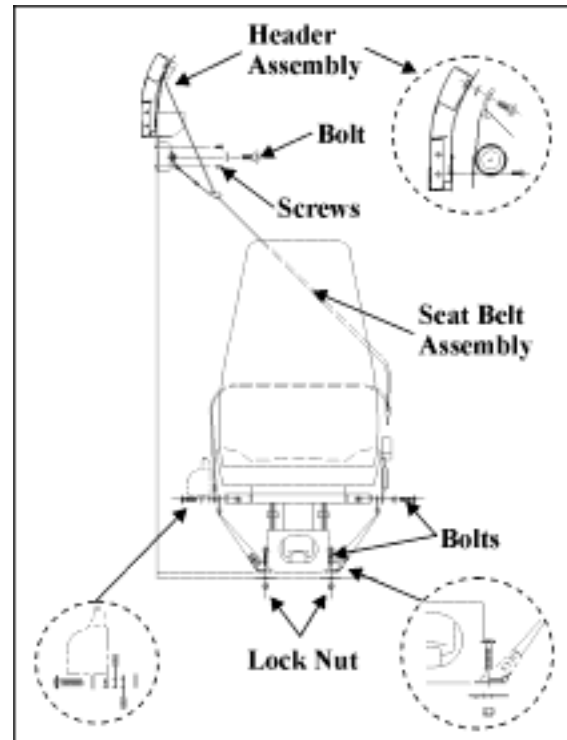

Figure 5—Driver's Seat Belt Attach Points
1. Remove one (1) capscrew and flat washer at seat belt retractor. **Figure 5—Driver's Seat Belt Attach Points.**
2. Remove one (1) shoulder bolt and flat washer at the header assembly.
3. Remove two (2) screws at the header assembly.
4. Remove one (1) bolt from the mounting bracket. **Figure 5—Driver's Seat Belt Attach Points.**
5. Remove two (2) bolts and washers from seat belt tether assembly. **Figure 5—Seat Belt Attach Points.**
6. Remove one (1) lock nut, one (1) reinforcement plate and one (1) bolt from floor.
2. Apply Loctite™ 242 Blue to five (5) or six (6) threads.
3. Install one (1) bolt, one (1) reinforcement plate, lock nut and washer into floor.
5. Install two (2) bolts and washers at the rear of the driver's seat. **Figure 5—Driver's Seat Belt Attach Points.**
6. Install one (1) bolt at the mount bracket. **Figure 5—Driver's Seat Belt Attach Points.**
7. Install one (1) flat washer and one (1) shoulder bolt at the header assembly
8. Install one (1) capscrew and flat washer at seat belt retractor. **Figure 5—Driver's Seat Belt Attach Points.**
9. Install two (2) screws at the header assembly.
1. Remove ten (10) screws from seat belt cover on cross bar at the rear of seat on the aisle side and wall side. **Figure 5—Passenger Seat Belt Removal and Installation.**
2. Remove one (1) flange head screw from rear frame under seat on the aisle side and wall side.